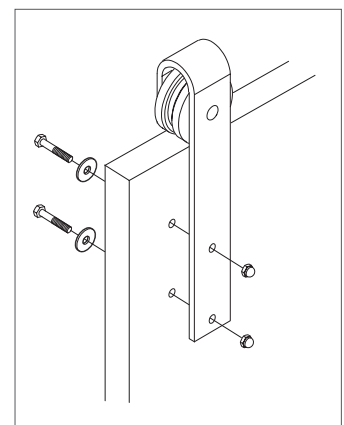

Figure 8
9. Install the hangers to the front of the door using the lag bolt, washers and acorn nuts provided (Figure 8).
6. Use the 1/8" drill bit to set a pilot hole use a grabber screw to attach the exposed 1/2 of the guide to door closest to the wall (Figure 8).